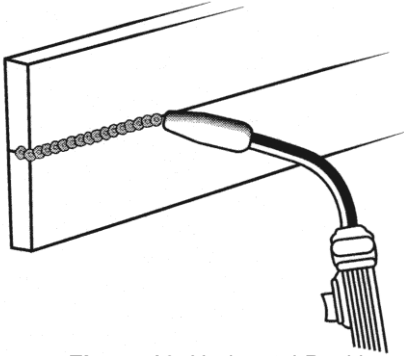

Figure 16. Horizontal Position
- The **HORIZONTAL POSITION** (Figure 16) is next in difficulty level. It is performed very much the same as the flat weld except that